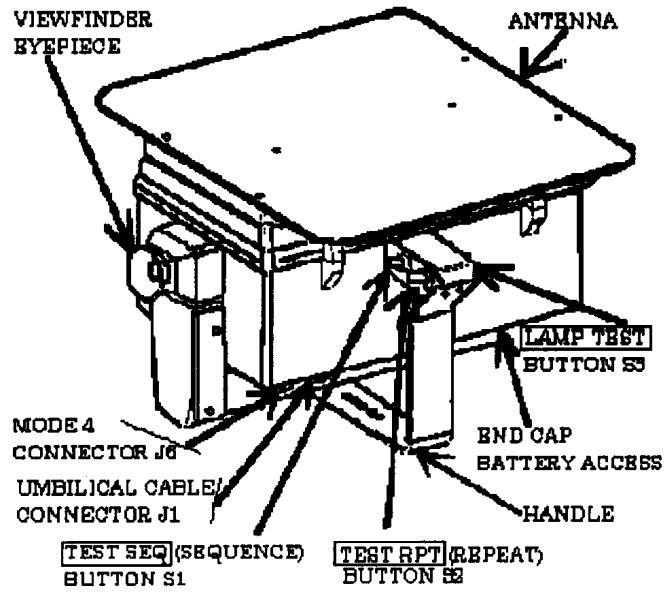
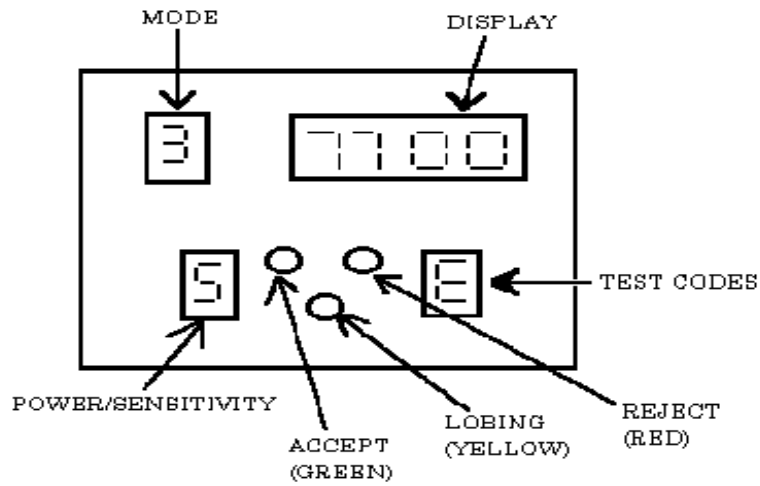

Figure 2. Test set controls and connectors.
Figure 3. Test set display indicators.
**b.** Look through VIEWFINDER EYEPiece (fig. 2) and press TEST SEQ (SEQUENCE) BUTTON S1 (fig. 2) pushbutton . TI will indicate MODE 1, 2, 3, or C (fig. 3):
**c.** REJECT (RED) (fig. 3) will be lit in the lower half of display.
**d.** Press LAMP TEST BUTTON S3 (fig. 2) pushbutton. TI will indicate **8 888.8** in upper half of display and **8 8** separated by the red, green, and yellow indicators in the lower half of display (fig. 3).